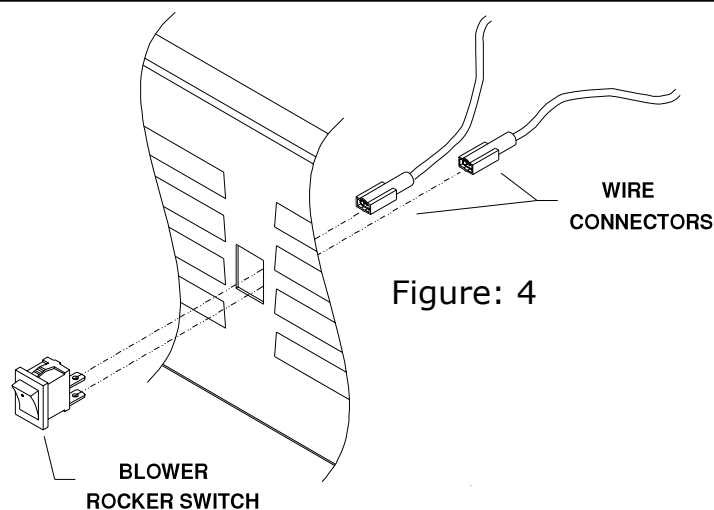

Figure: 4
Step 5: Remove the 2 connectors from the ON/OFF rocker switch located on the wiring harness. (Figure: 4)